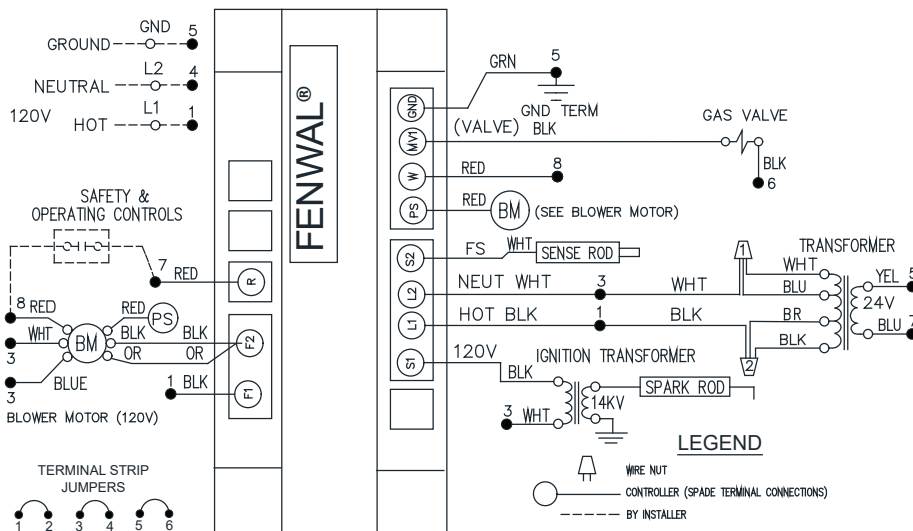

Figure 5: Wiring Diagram EC 200 and EC 300 - 120V and 240V and External Spark Wiring Diagrams
- Refer to the wiring diagram Figure 5 or the same wiring diagram supplied on the inside of the burner wiring enclosure. There are three leads (black - L1, white - L2 and green - ground) and two thermostat wire leads (blue) inside the wiring enclosure.